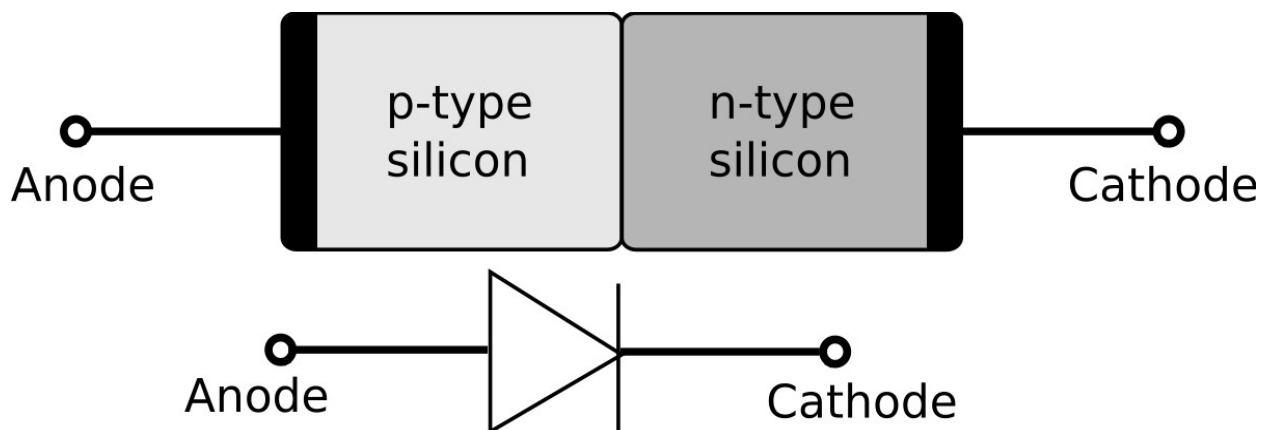

Figure 21: PN Junction Internal Structure and Circuit Symbol
- e. Show the structure and symbol of a diode in Figure 21